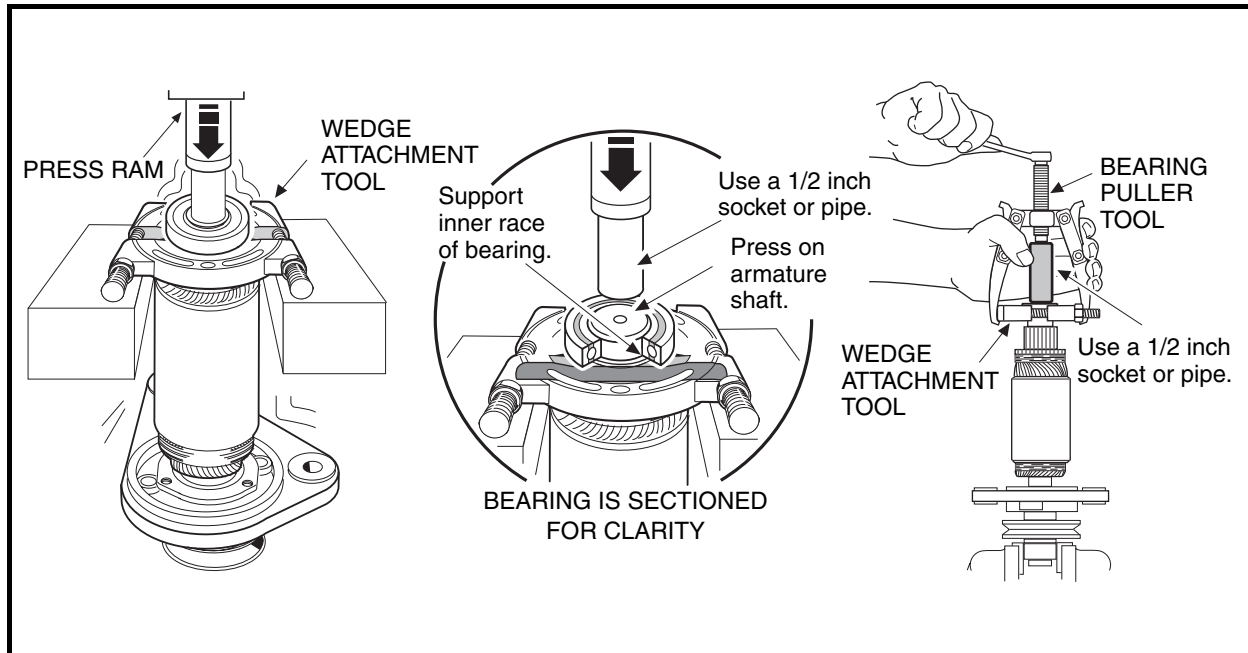

Figure 12-9 Bearing Removal
1. Place the wedge attachment tool (CCI P/N 1012812) between the bearing and the armature. Make sure the wedge attachment tool is supporting the inner race of the bearing. If a press is not available, secure a bearing puller (CCI P/N 1012811) to the wedge attachment tool and pull the bearing off of the end of the armature shaft. Support the armature so that it will not drop when the bearing is removed (**Figure 12-9, Page 12-6**).